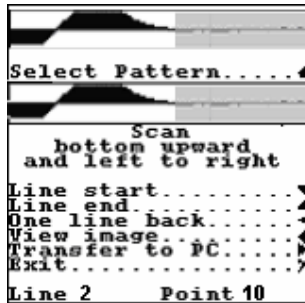

Fig. 70
12. Press the Down key (line start function). Move the transducer along the marked line from the beginning of the line to the end. While moving, it produces a series of hits with the 1 cm step through the traversed path. In is very important when moving the transducer to hold it pressed to the object surface in order to ensure that the hits are produced equidistantly and cover all the line. The oscillogram of the signal received on each hit is displayed in the upper rectangle (Fig. 70). When reaching the end press the Up key (line end function).